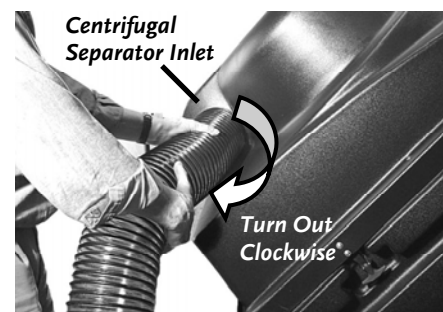

Figure 33
3. Remove the hose from the inlet of the Centrifugal Separator by grasping the hose and unscrewing it, clockwise (**Figure 33**).